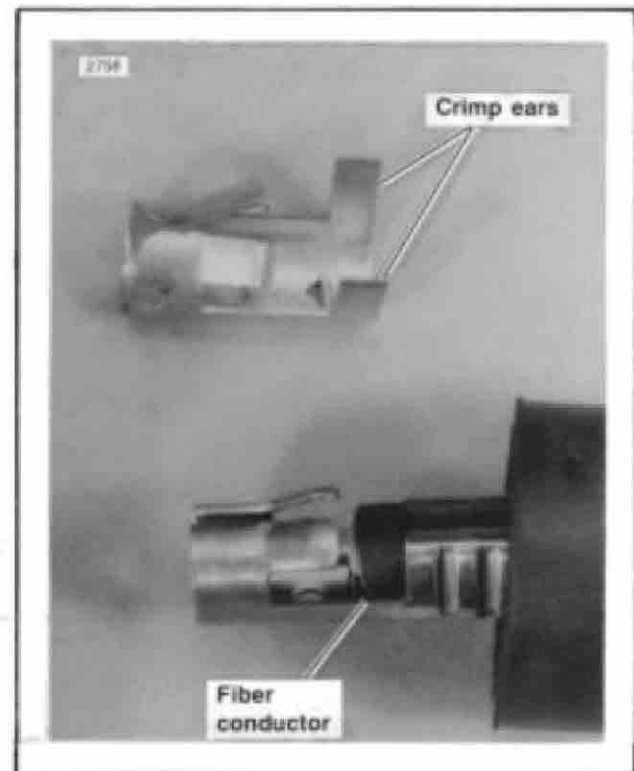

Figure 3. Installation of Terminal
5. See Figure 3. Fold back fiber conductor on one of the cables. Insert cable end into the crimp area of one of the terminals. Conductor should be away from area where crimp ears meet when crimped. Crimp terminal onto cable with tool described in Step 4. Repeat for other wire.